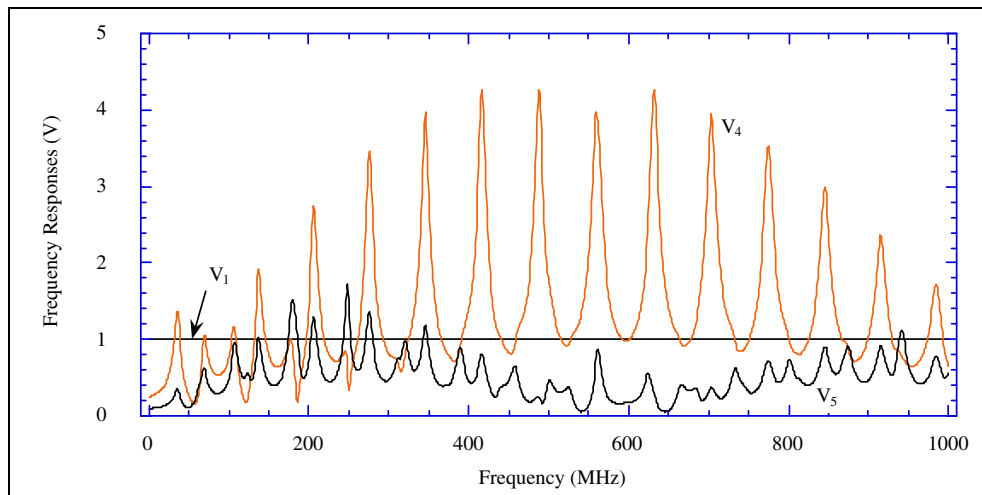

Figure 35 Simulation Results: AC Response
- Figure 35 on page 129 shows AC response